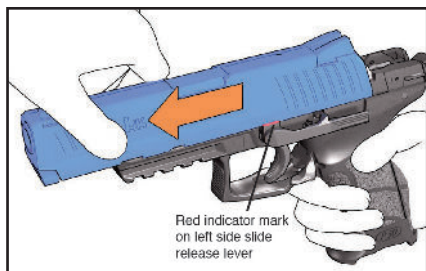

Figure 24 — Removing the slide
7. Pull the slide release to the left until it reaches the locking position. A red painted area on the top of the part will be exposed, indicating the part is in its outermost position. Pull the slide forward off the pistol's frame (Figure 24).